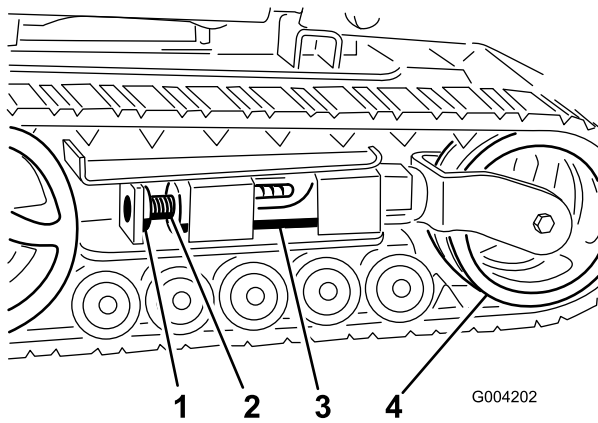
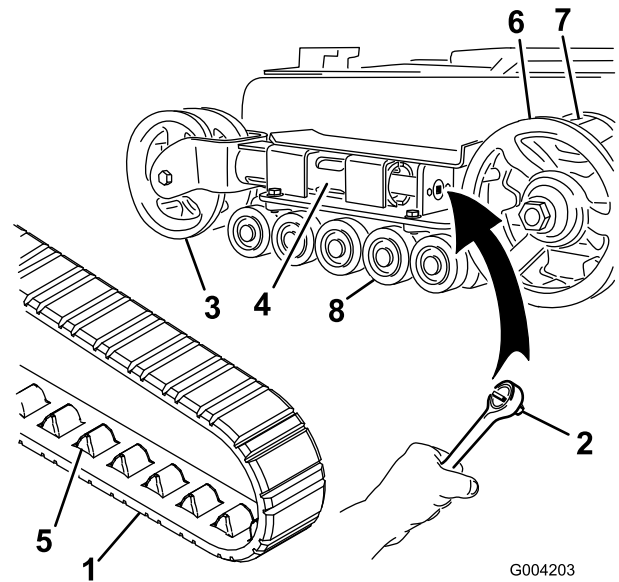
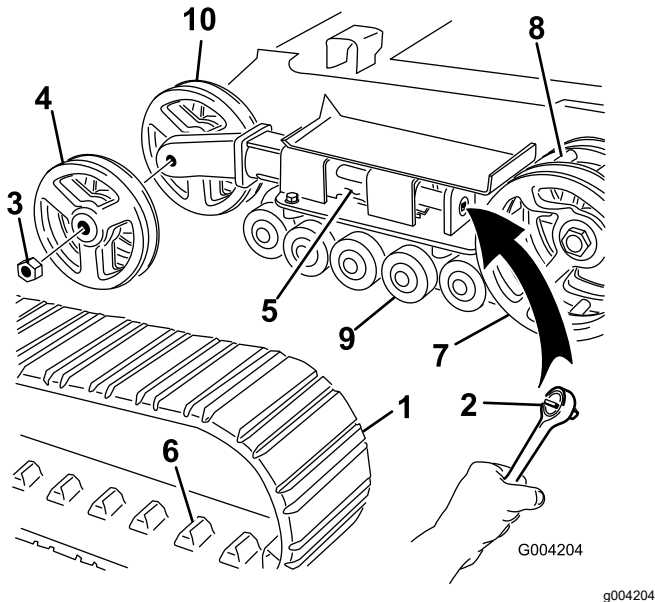

Figure 52
Figure 53
Figure 54
4. Remove the locking bolt and nut (Figure 52).
6. Align the closest notch in the tension screw to the locking bolt hole and secure the screw with the locking bolt and nut (Figure 52).
6. Push the tension wheel toward the rear of the unit to move the tension tube against the frame (Figure 53).
8. When the track is off the tension wheel, remove it from the drive sprocket and road wheels (Figure 53).
9. Beginning at the drive sprocket, coil the new track around the sprocket, ensuring that the lugs on the track fit between the cogs on the sprocket (Figure 53).
10. Push the track under and between the road wheels (Figure 53).
Note: You have narrow-width tracks if the front tension wheels are mounted inside a fork on the end of the tension tube (Figure 53).
5. Using a 1/2-inch drive ratchet, release the drive tension by turning the tensioning screw clockwise (Figure 52 and Figure 53).
Note: You have wide-width tracks if the front tension wheels are mounted on the sides of the end of the tension tube (Figure 54).
5. Using a 1/2-inch drive ratchet, release the drive tension by turning the tensioning screw clockwise (Figure 52 and Figure 54).
6. Push the tension wheel toward the rear of the unit to move the tension tube against the frame (Figure 54).
7. Remove the nut securing the outer tension wheel and remove the wheel (Figure 54).
8. Remove the track (Figure 54).
9. Remove the nut securing the inner tension wheel and remove the wheel (Figure 54).
13. Install the inner tension wheel and secure it with the nut removed previously (Figure 54).
15. Install the new track, ensuring that the lugs in the track fit between the cogs in the middle of the drive sprocket (Figure 54).
16. Install the outer tension wheel and secure it with the nut removed previously (Figure 54).
6. Place the greased road wheel cap over the bolt head (Figure 53).
7. Secure the road wheel cap with the snap ring (Figure 53).